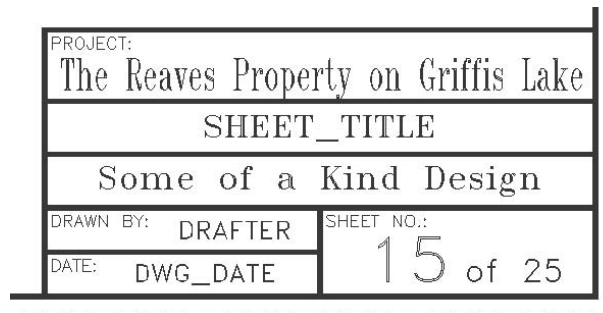

FIGURE B.27: The “SHEET NO.:
7. Use the Move command again to separate the two lines of text from each other and to position them in the box in such a way that they are readable as one line of text (see Figure B.27).